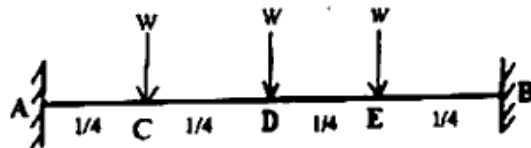

Figure 5 (चित्र 5)
6. a) Determine the fixed end moments for the loaded beam shown in figure 5. Also draw BMD for the beam of span 'l'. 7